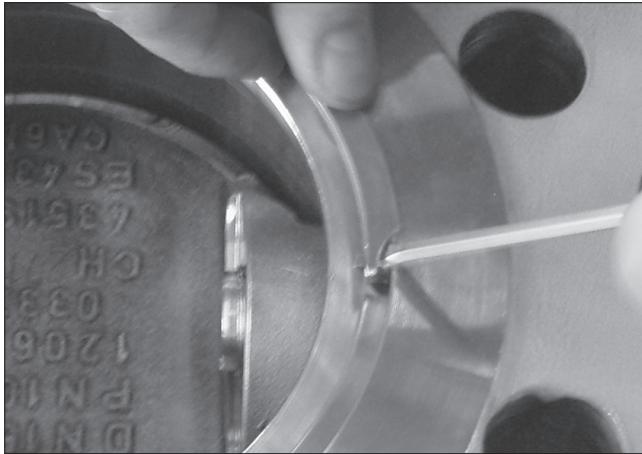
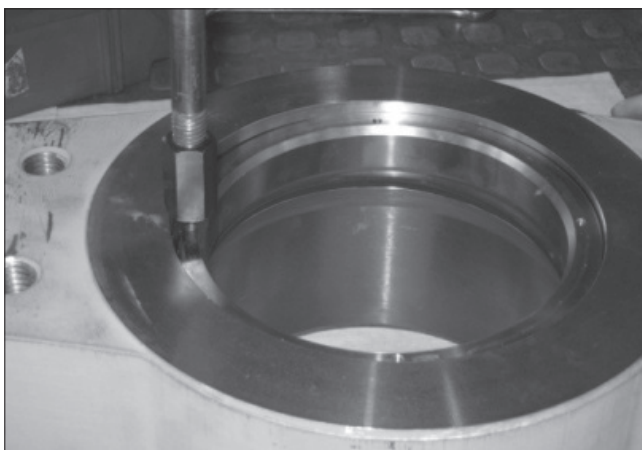

Fig. 27 Loosening the retainer ring
Fig. 29 Extracting the seal
- Remove the spiral retainer ring (310, see fig. 27 – 28). The seal ring (301) is now freely accessible and can be removed using an extraction tool (see fig. 29). For this purpose, the seal ring features two extraction threads.